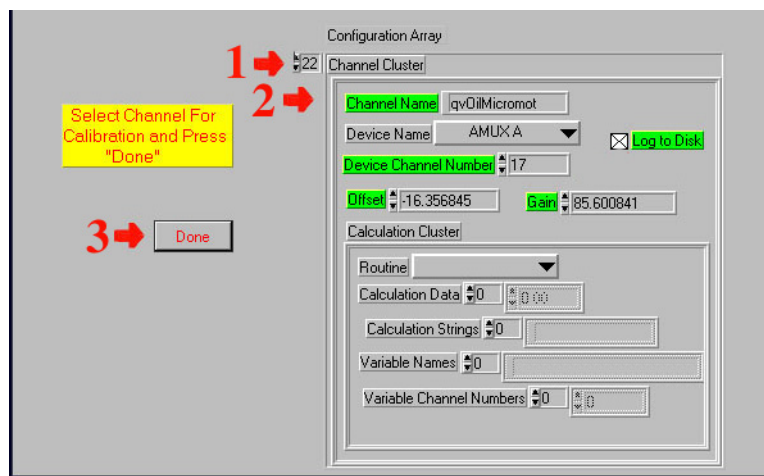

Figure 6
- 110 On the “Configuration Array” screen, select the up or down arrow for the device “Channel Cluster.” See Arrow 1 in Figure 6.
Select the up or down arrow for the device “Channel Name.” See Arrow 2 in Figure 6.
Select “Done.” See Arrow 3 in Figure 6.